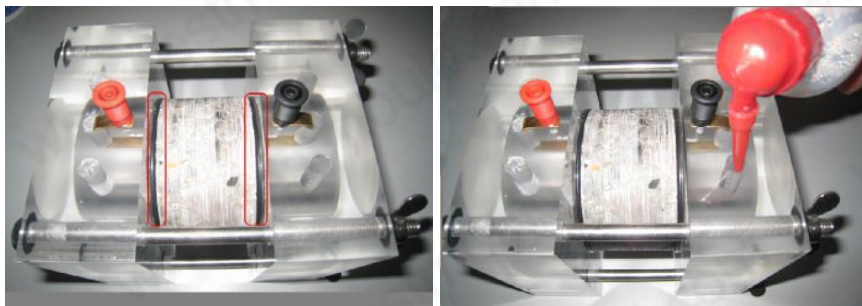

Figure 2-3
Fixture installation does not need to wax treatment, but if the user's sample is not flat, the gap between saturated concrete samples and the fixture needs of sealing wax (Figure 2-3 left the red box).
1. Put a fixture which is installed with concrete samples vertically on a horizontal table (binding post up) figure 2-3 left.
2. Inject water from the water hole of the fixture (figure 2-3 on the right), to check if there is water leakage. If there is water leakage, please do some local sealing wax, and check it again until there is no leakage. Then pour out the water.